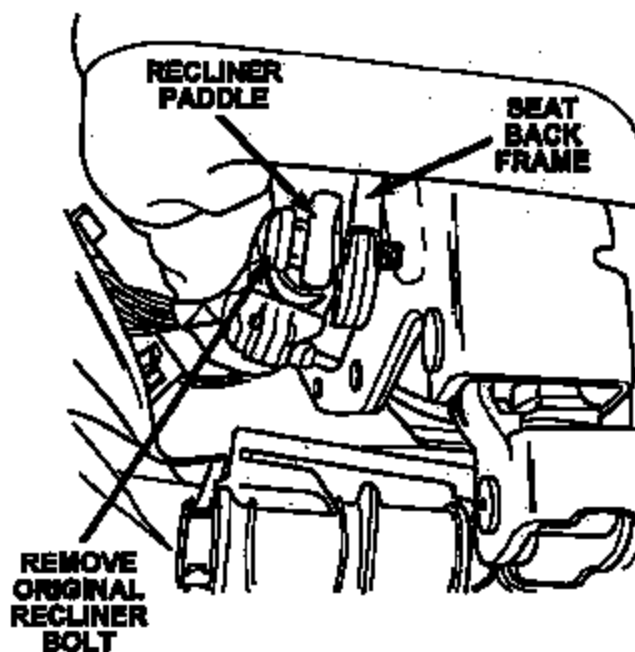

Figure 7
10. Remove the outboard recliner paddle-to-seat back frame bolt (Figure 7).